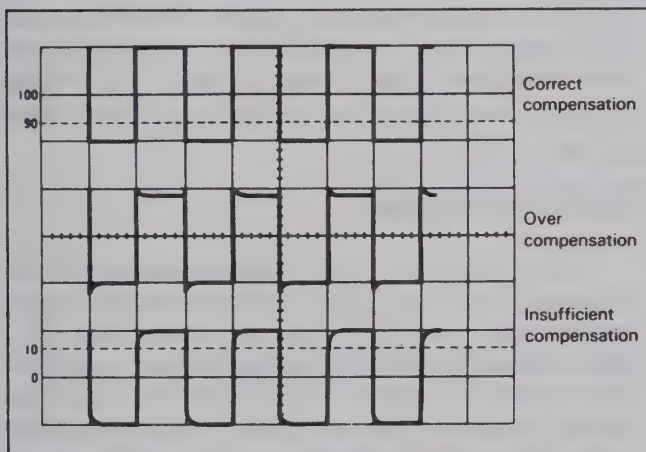

Fig. 27. Probe Compensation Adjustment.
1. Connect probes to **CH 1 (X)** and **CH 2 (Y)** **INPUT** jacks. Repeat procedure for each probe.
4. Adjust compensation trimmer on probe for optimum square wave (minimum overshoot, rounding off, and tilt). Refer to Fig. 27.